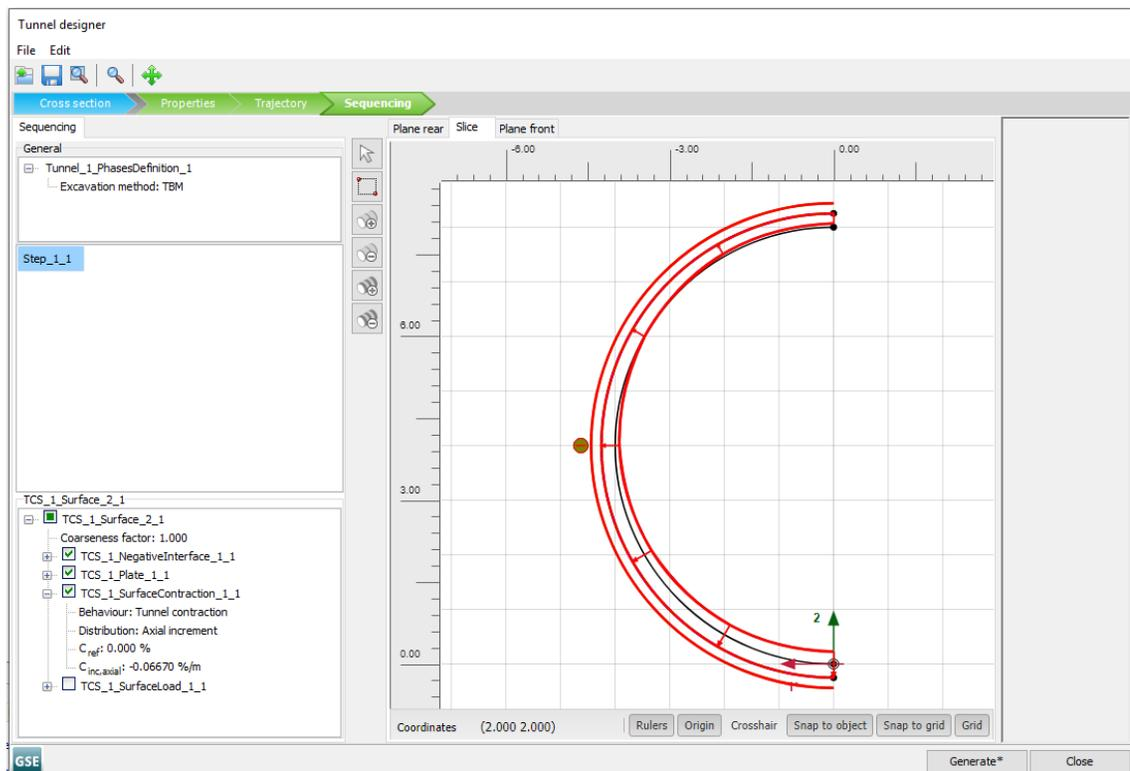

Figure 68: Slice tabsheet in the *Tunnel designer* for Step_1_1
- In the **Slice** tabsheet as well, select the outer surface. In the **Selection explorer**, activate the negative interface, the plate and the surface contraction (Figure 68 (on page 94)).